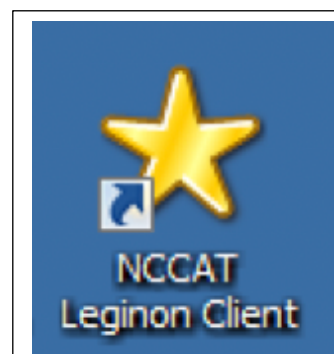

Figure 1. Click on the "NCCAT Leginon Client" icon on the **microscope computer** desktop before launching Leginon from the Leginon computer.
- 4.1.2.1. Startup the **NCCAT Leginon Client** by double clicking the icon on the desktop of microscope computer (Figure 1).